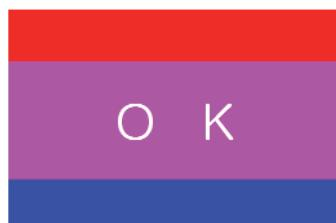

Fig.2
- Check pattern as Fig2 without 3D glasses. (3D mode without 3D glasses)